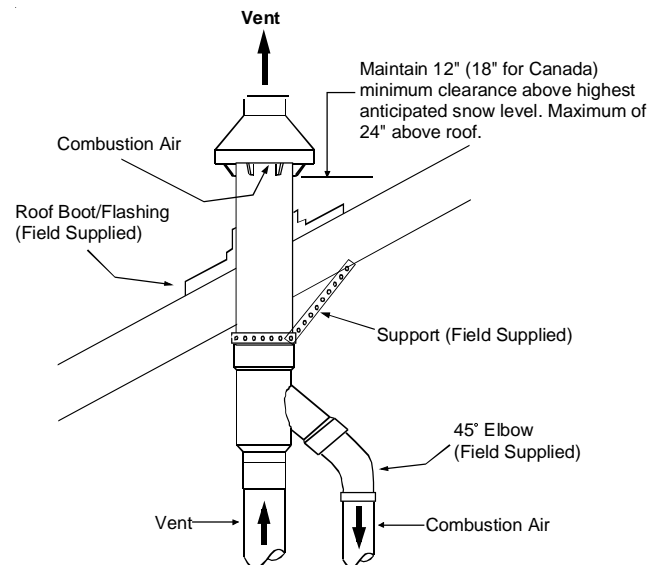
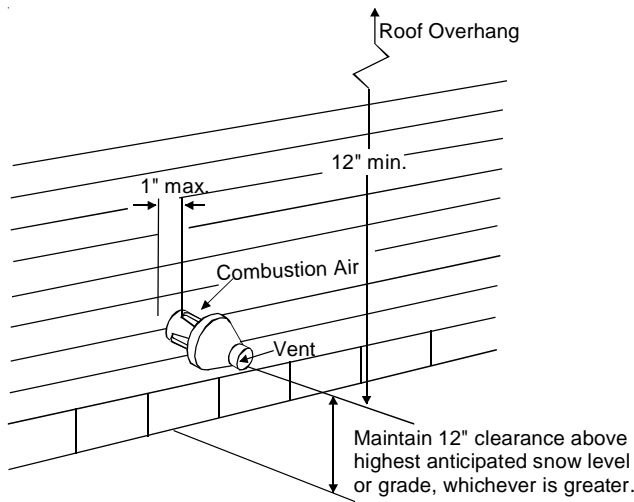

FIGURE 3
FIGURE 6
- Determine the best location for the termination kit. See Figure 3 for vertical termination or Figure 6 and Figure 7 for horizontal termination. Roof termination is preferred since it is less susceptible to damage, has reduced intake contaminants and less visible vent vapors. For side termination, consideration should be given to:
- Secure the assembly to the structure as shown in Figure 3 or Figure 7 using field supplied metal strapping or equivalent material.
- Ensure the termination height is above the roof surface or anticipated snow level as shown in Figure 3 for vertical termination.
- Ensure the termination location clearance dimensions are as shown in Figure 6 and Figure 7 for horizontal termination.
- Cement the furnace combustion air and vent pipes to the concentric vent termination assembly. See Figure 3 or Figure 7 for proper pipe attachment.